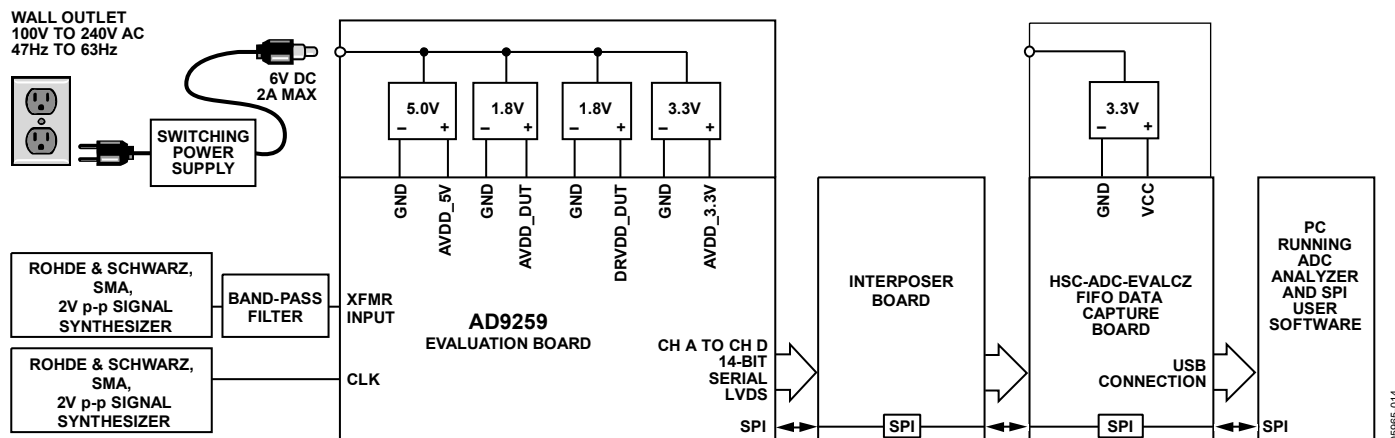
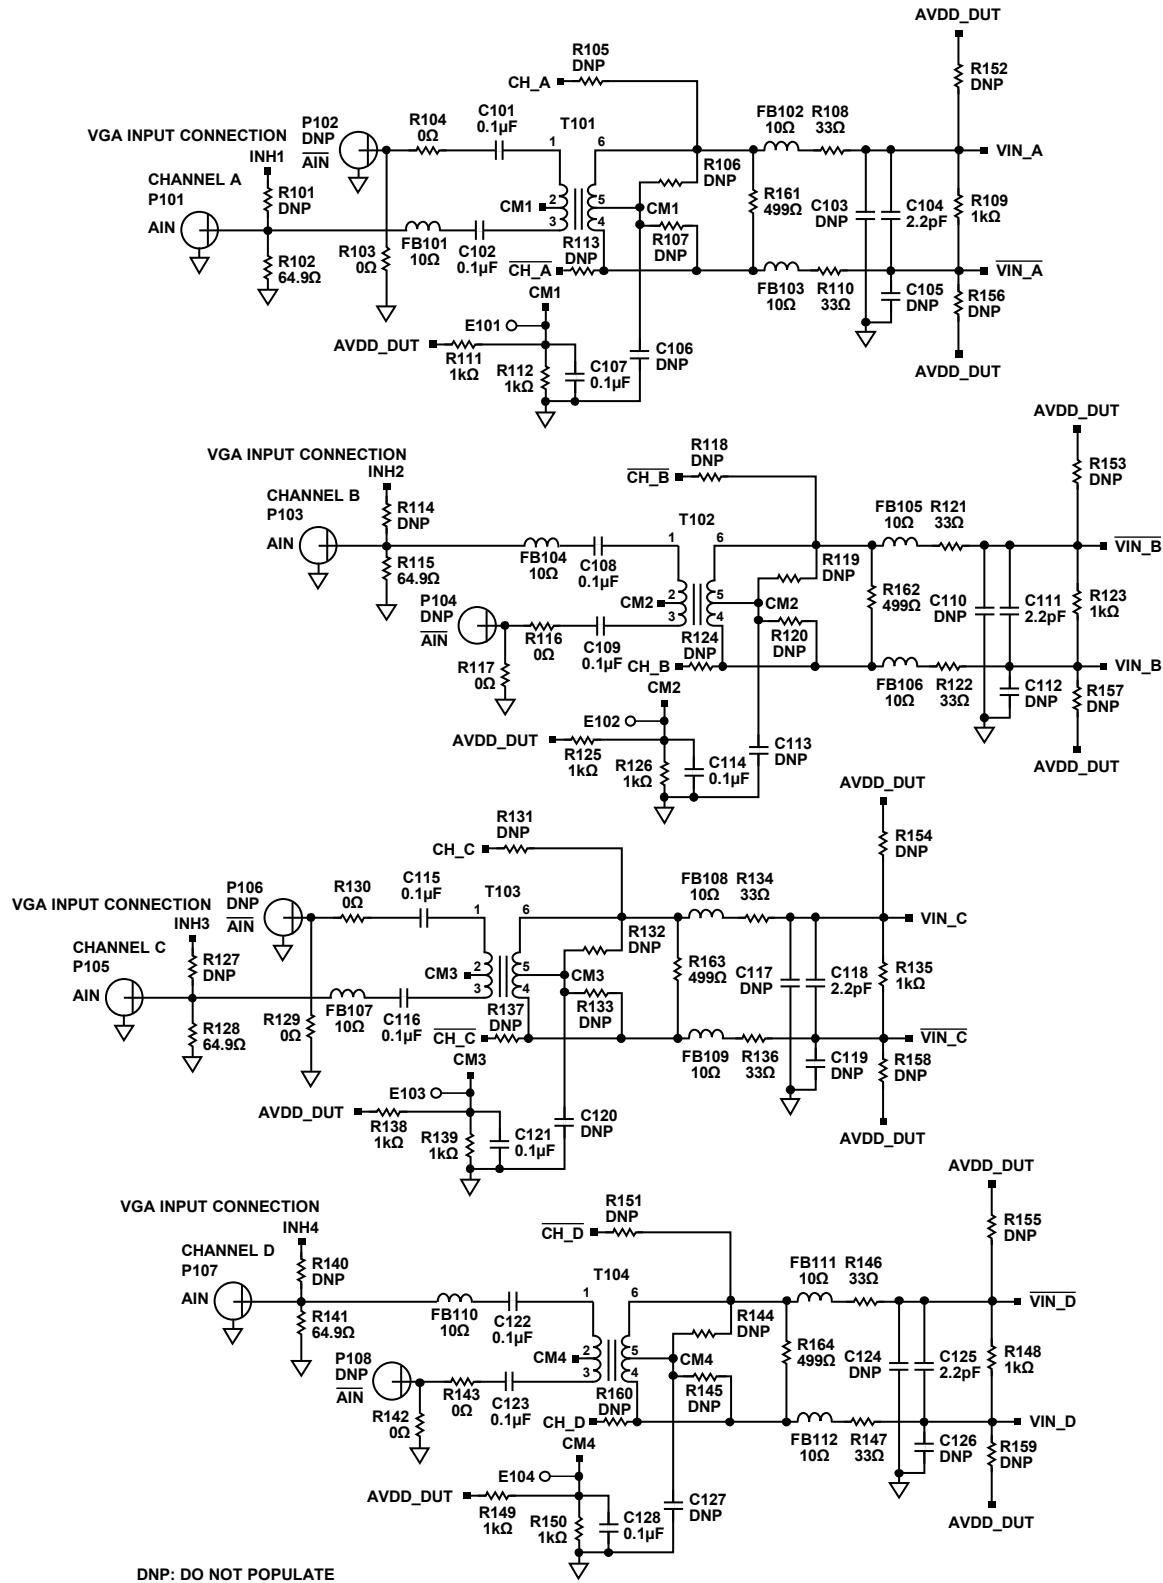

Figure 60. Evaluation Board Connection
Figure 62. Evaluation Board Schematic, DUT Analog Inputs
The AD9259 evaluation board provides all of the support circuitry required to operate the ADC in its various modes and configurations. The converter can be driven differentially using a transformer (default) or a AD8332 driver. The ADC can also be driven in a single-ended fashion. Separate power pins are provided to isolate the DUT from the drive circuitry of the AD8332. Each input configuration can be selected by changing the connection of various jumpers (see Figure 62 to Figure 66). Figure 60 shows the typical bench characterization setup used to evaluate the ac performance of the AD9259. It is critical that the signal sources used for the analog input and clock have very low phase noise ( $<1$  ps rms jitter) to realize the optimum performance of the converter. Proper filtering of the analog input signal to remove harmonics and lower the integrated or broadband noise at the input is also necessary to achieve the specified noise performance.
See Figure 62 to Figure 70 for the complete schematics and layout diagrams demonstrating the routing and grounding techniques that should be applied at the system level.
- **D + x, D - x:** If an alternative data capture method to the setup shown in Figure 60 is used, optional receiver terminations, R206 to R211, can be installed next to the high speed backplane connector.